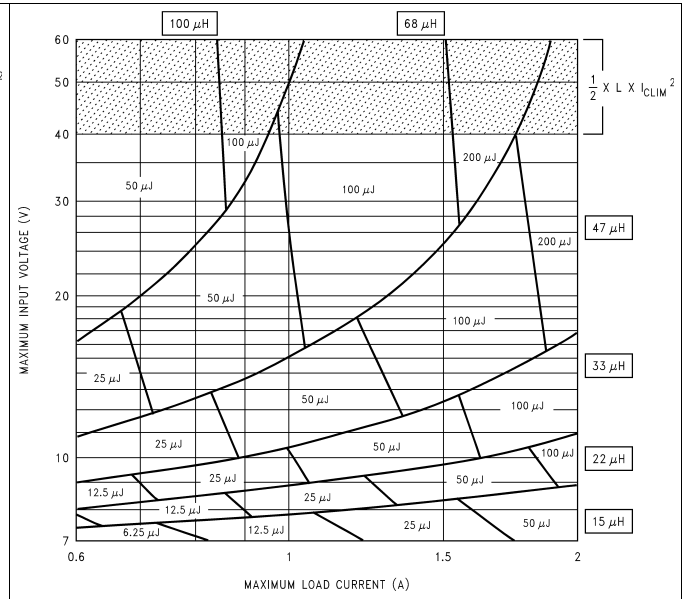

Figure 34. LM2593HV 5-V
1. A first pass inductor selection is based upon inductance and rated maximum load current. Choose an inductor with the inductance value indicated by the nomograph (see Figure 34) and a current rating equal to the maximum load current. Therefore, quick-select a 68- $\mu\text{H}$ , 1-A inductor (designed for 150-kHz operation) for this application.
2. Confirm that it is rated to handle 50  $\mu\text{J}$  (see Figure 34) by either estimating the peak current or by a detailed calculation as shown in *AN-1197 Selecting Inductors for Buck Converters (SNVA038)*, and also that the losses are acceptable.
1. A first pass inductor selection is based upon inductance and the switch current limit. Choose an inductor with the inductance value indicated by the nomograph (see Figure 34) and a current rating equal to  $I_{\text{CLIM}}$ . Therefore, quick-select a 68- $\mu\text{H}$ , 4-A inductor (designed for 150-kHz operation) for this application.